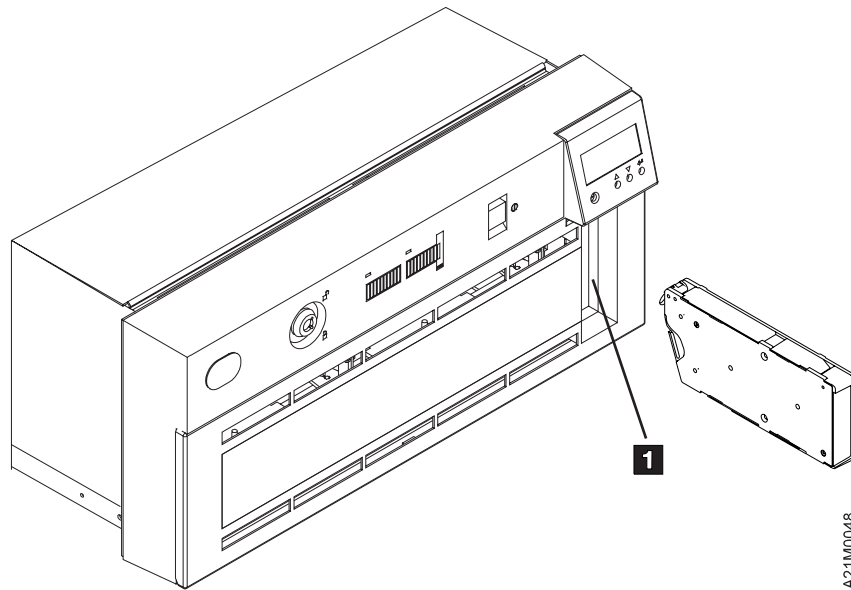

Figure 51. Location of Priority Cell in Models B21 and B22
- ___ Step 16. Load a scratch cartridge through the priority cell (see **1** in Figure 51 on page 93) to the import position by pushing it gently into the priority cell until it comes to a stop and even with the front of the magazine. Select START from the main **OPTIONS** menu.
- ___ Step 41. Load a media cartridge through the priority cell (see Figure 51 on page 93) to the import position by pushing it gently into the priority cell until it comes to a stop, and even with the front of the magazine.